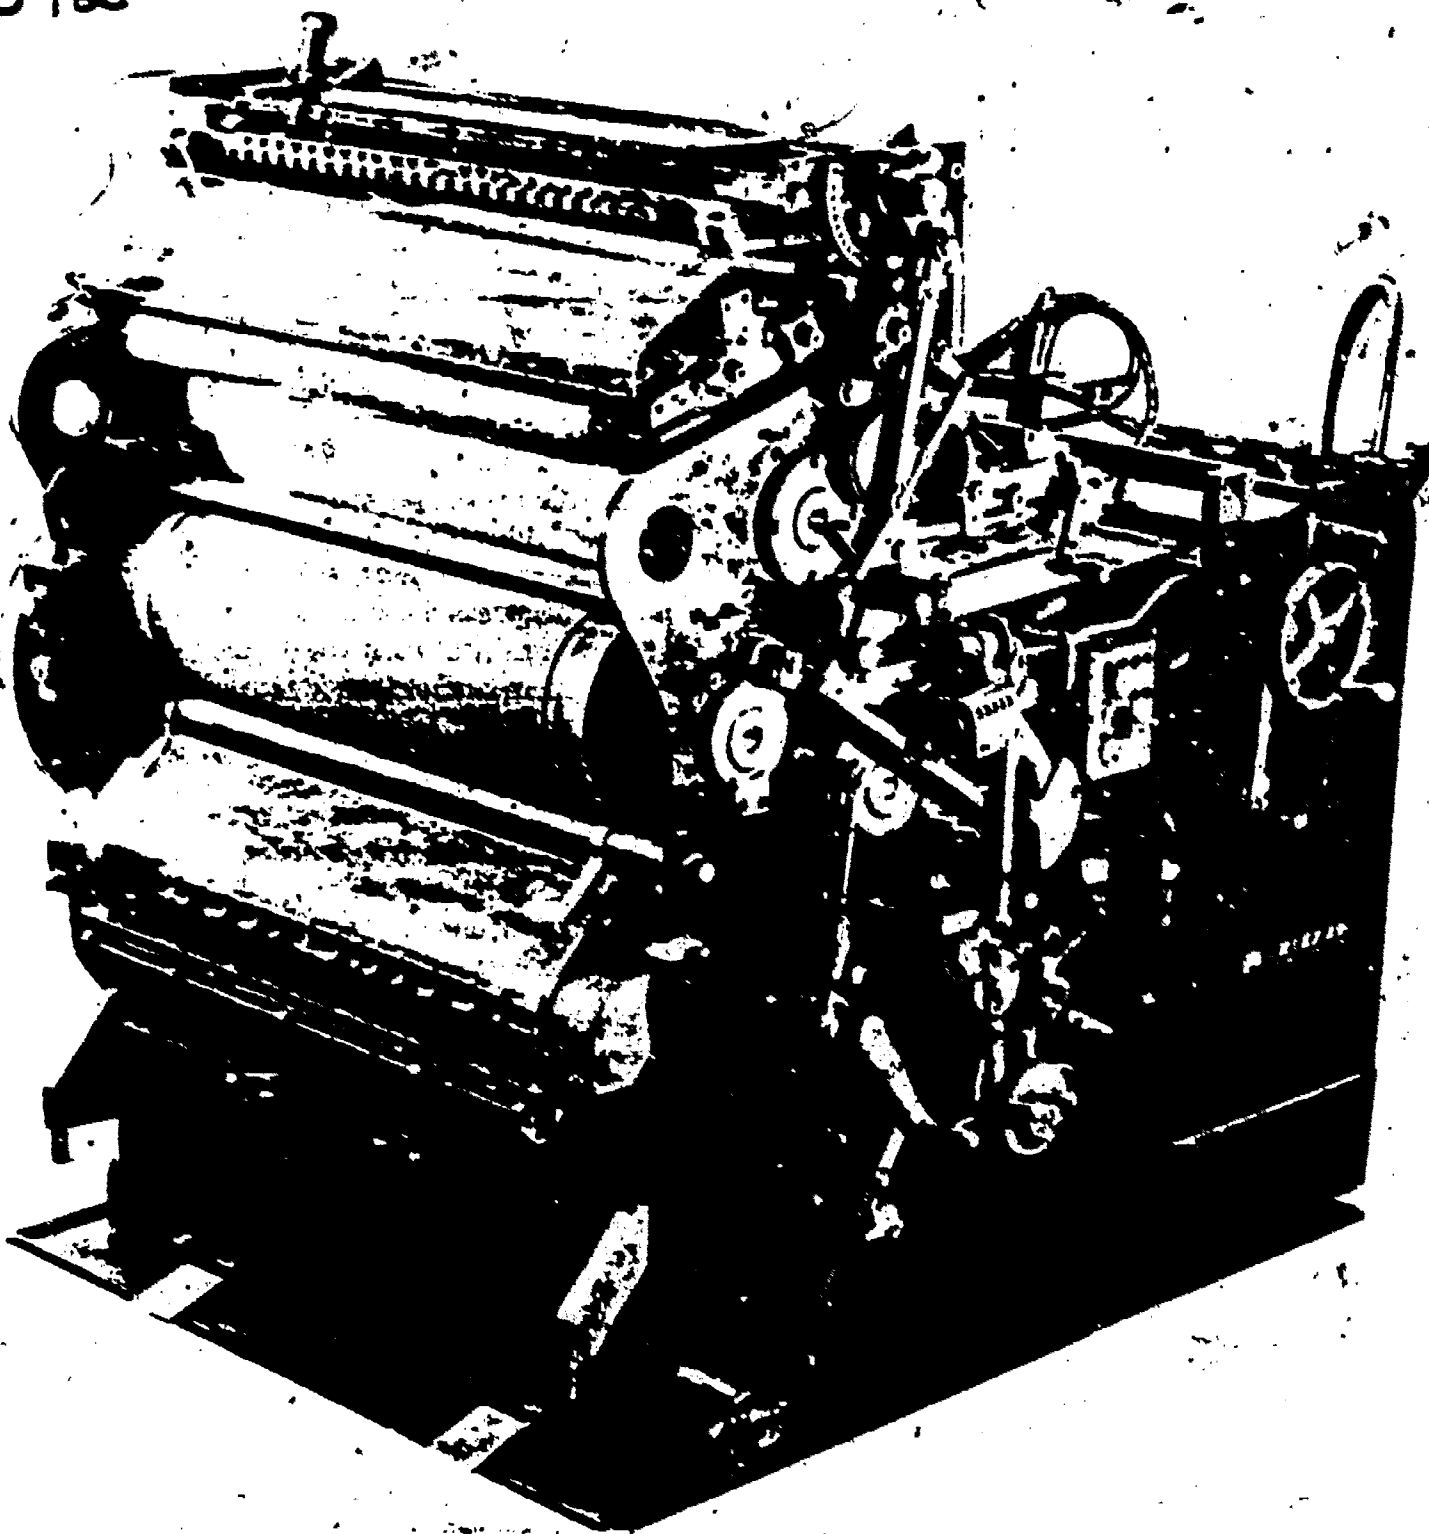

Figure 8-1. ATF Model DP (Chief 29) viewed from the operator's side and showing delivery end.
c. The presses used by military printing plants, while they vary in size, model, and maker, are almost all of the single-color, sheet-fed type, printing on one side of the paper. The ATF Model DP (also called the Chief 29) is the standard offset press in Army topographic units, and is the one used in the mobile vans (fig. 8-1). It can accommodate a maximum paper size of 22½ by 30 inches, and a minimum paper size of 11 by 17 inches. The Harris LXC, (fig. 8-2) which is used in some printing plants, has a maximum paper size of 23 by 30 inches, and a minimum paper size of 9 by 12 inches.